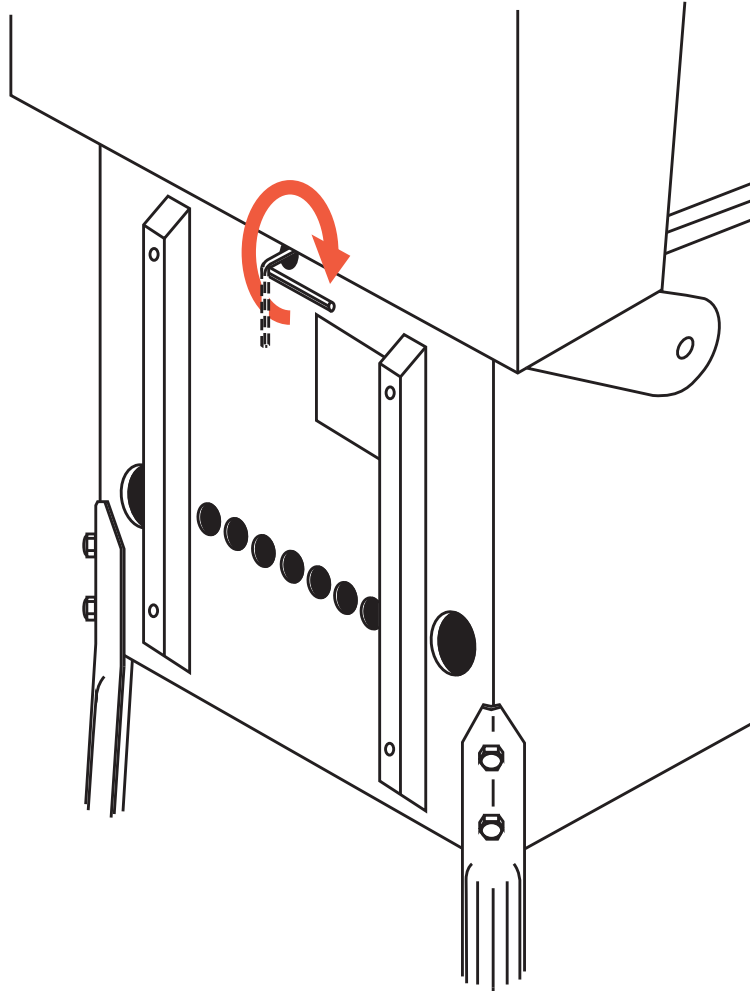

Figure A8. Locking the backbox in the upright position.
8) Locate the “L”-shaped, 5/16” hex key for the backbox Roto-Lock in the loose parts. Insert it into the hole at the base of the backbox and turn it a full 270 degrees CW (see figure A8).